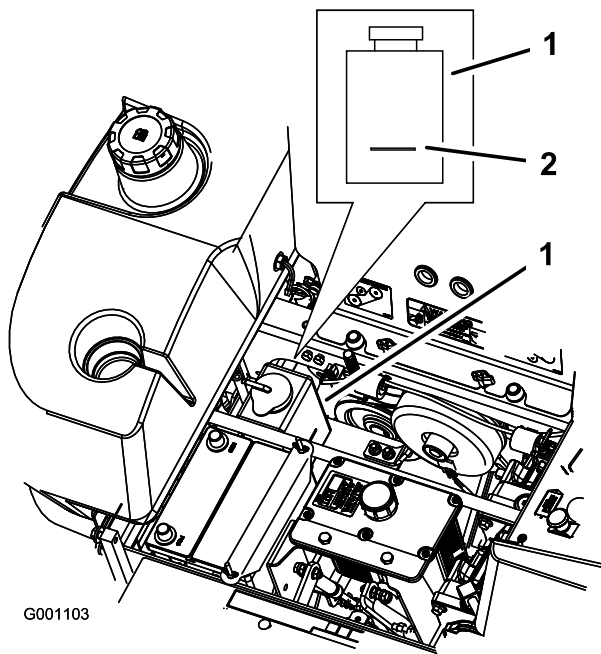

Figure 68
4. With the engine cool, check the overflow bottle level. The fluid needs to be up to the bump on the outside of the overflow bottle (Figure 68).
5. If the coolant level is low, add a 50/50 mix of extended life antifreeze/Dex-Cool® and water to the overflow bottle (Figure 68).
6. Add the 50/50 coolant mix to the overflow bottle and fill it to the indicator line on the bottle (Figure 68).